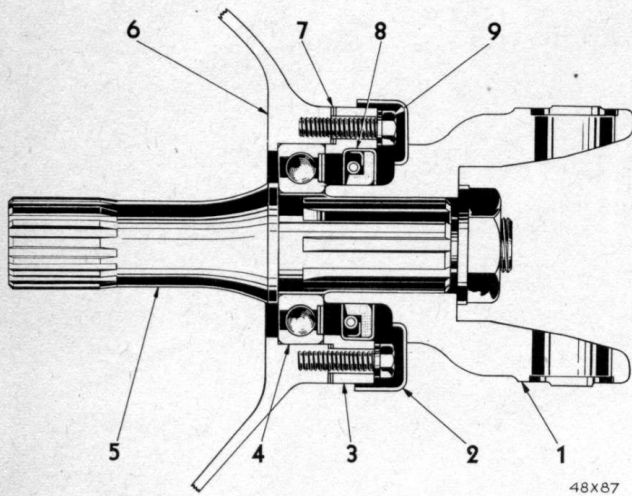

Fig. 97—Differential Drive Shaft Arrangement
83. REMOVAL OF DIFFERENTIAL DRIVE SHAFT ASSEMBLY (FIG. 97)
- (1) Using universal joint spanner wrench DD-949, hold the yoke while removing the nut from shaft.
- (2) With puller DD-1000, pull the yoke from the differential drive shaft.
- (3) Remove screws that hold bearing retainer and remove retainer.
- (4) Remove the shims between the retainer and carrier housing. Shaft and bearing can now be removed by hand.
84. ADJUSTMENT OF DIFFERENTIAL DRIVE SHAFT BEARING (FIG. 97)
To determine the correct adjustment of the differential drive shaft bearing, refer to Figure 97 and proceed as follows: